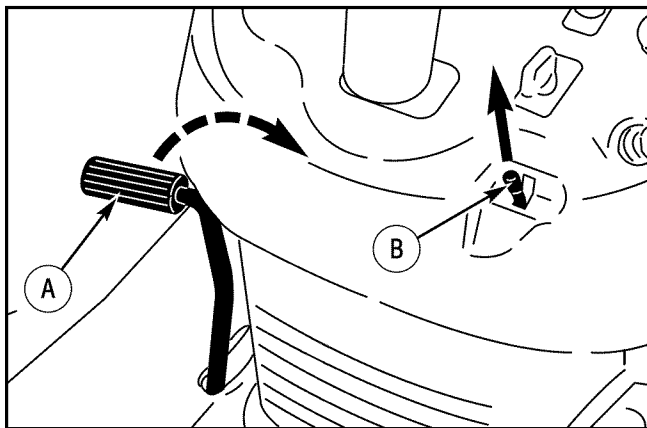

Figure 14: Parking brake
2. Lift the **parking brake lever** (Figure 14).
**WARNING:** Before you leave the operator's position, move the speed control pedal to the **neutral (N)** position. Set the parking brake. Move the blade rotation control to the **DISENGAGE** position. Stop the engine and remove the ignition key.